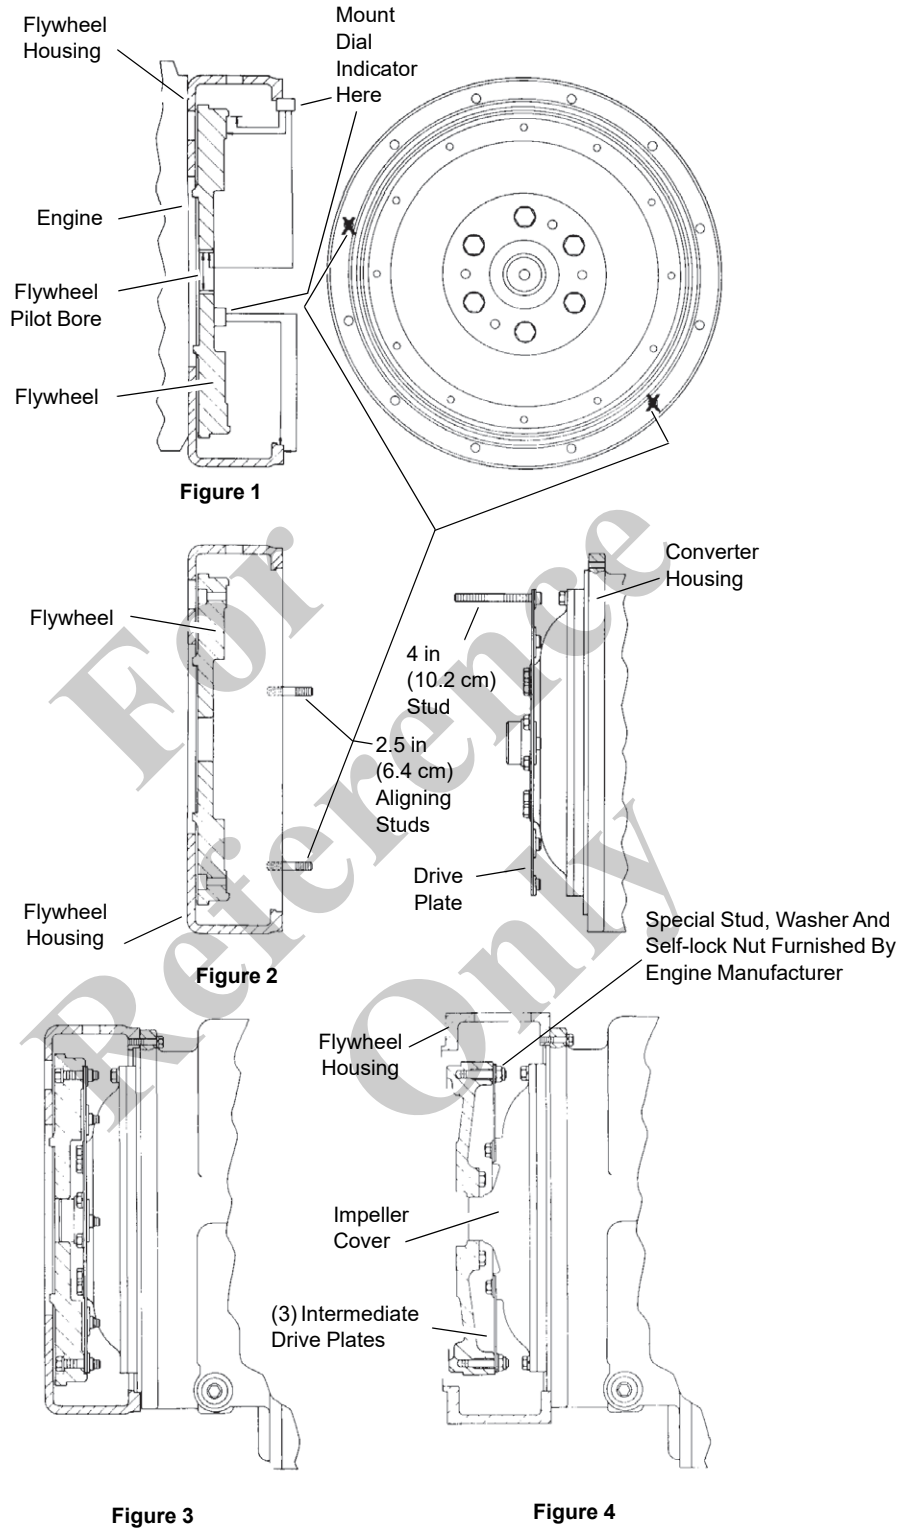

FIGURE 7-16
- NOTE:** Refer to Figure 7-16 for a typical transmission/torque converter installation.